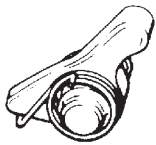

Figure 2
3. Slide sprocket (56) onto pin.
4. Apply grease to the detent pin (23) and slide into the detent pawl. Place the detent spring (36) onto the pin making sure the spring ends have not been bent out of shape. The cross arm of the spring goes under the flat side of the arrow shaped point of the detent pawl (see Figure 2).